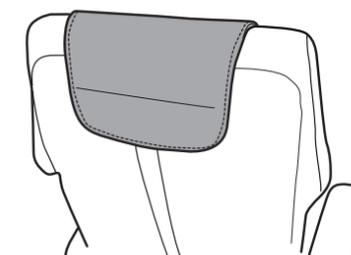

Fig.34
- Place the neck pillow at the desired height; a magnet holds it in position (Fig.34).